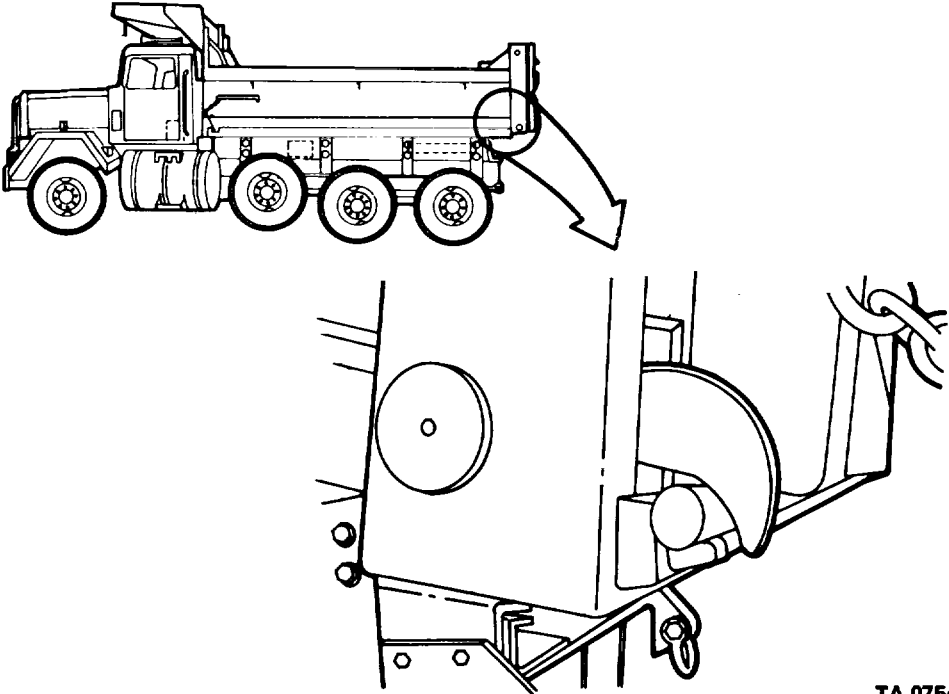

Figure 2-2. Bottom Latch of Tailgate.
- (2) Check that the jaws of the tailgate locking mechanism are closed securely over the bottom pins of the tailgate as shown in figure 2-2.
- k. Check the jaws on both sides of the tailgate hinge. Be sure they are closed firmly over the pins (fig. 2-2).